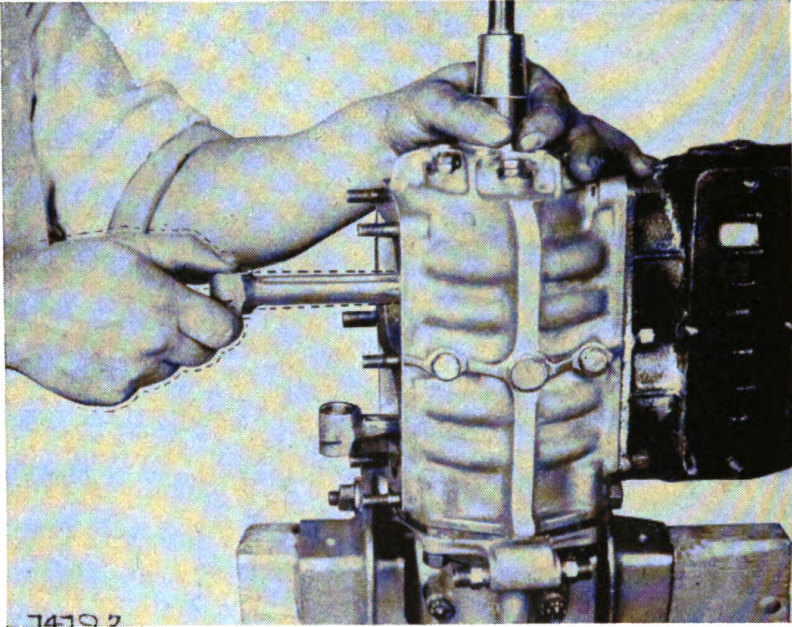

Figure 73. Up-and-down movement of rod should be about $1/32$ inch.
(6) Put in connecting-rod screws and draw up evenly. In like manner assemble other rods and bearings. No. 1 rod is upper left; No. 2, upper right; No. 3, lower left; No. 4, lower right. Tighten all rod screws with brace and screw-driver bit. Grasping piston end of rod, allowable up-and-down movement at piston-pin end of rod is about $1/32$ inch. (See fig. 73.)